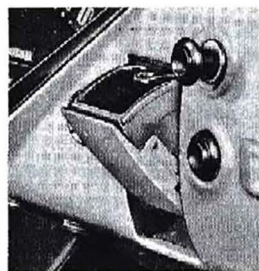

Fig. 13—Ash Tray
**Ash Tray.** A convenient tilt type ash tray is located in the instrument panel to the right of the instrument cluster (fig. 13). The tray is opened by pushing it forward at the bottom. To remove the ash tray for emptying, depress the circular snuffer at top of tray.